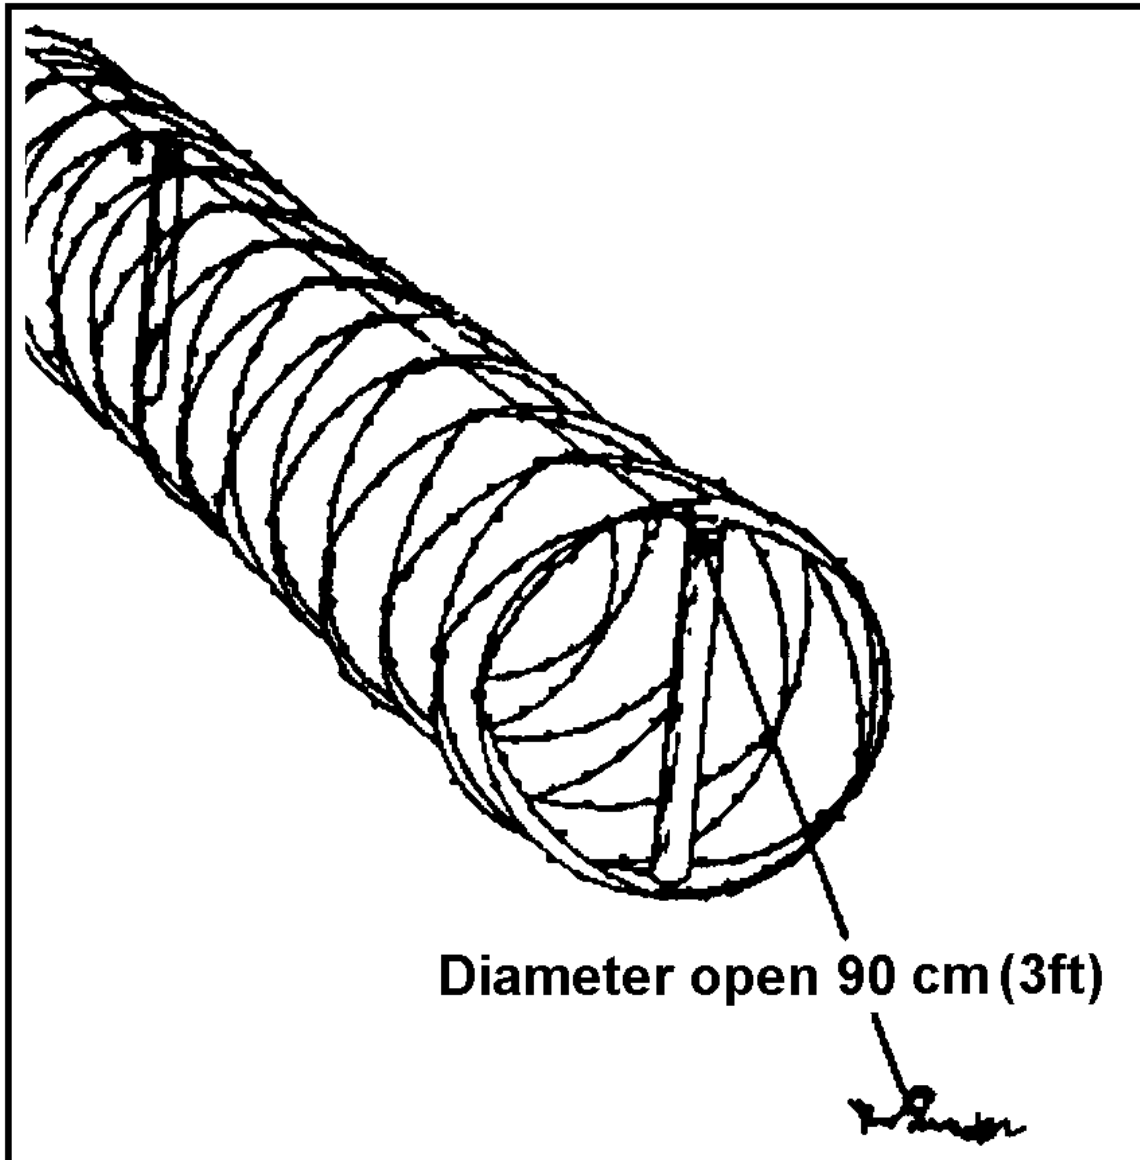

Figure 051-195-1020-5
- (1) Stretch a strand of barbed wire along the top of the extended concertina.
- (2) Use a post tie to tie the barbed wire to each picket (Figure 051-195-1020-5).